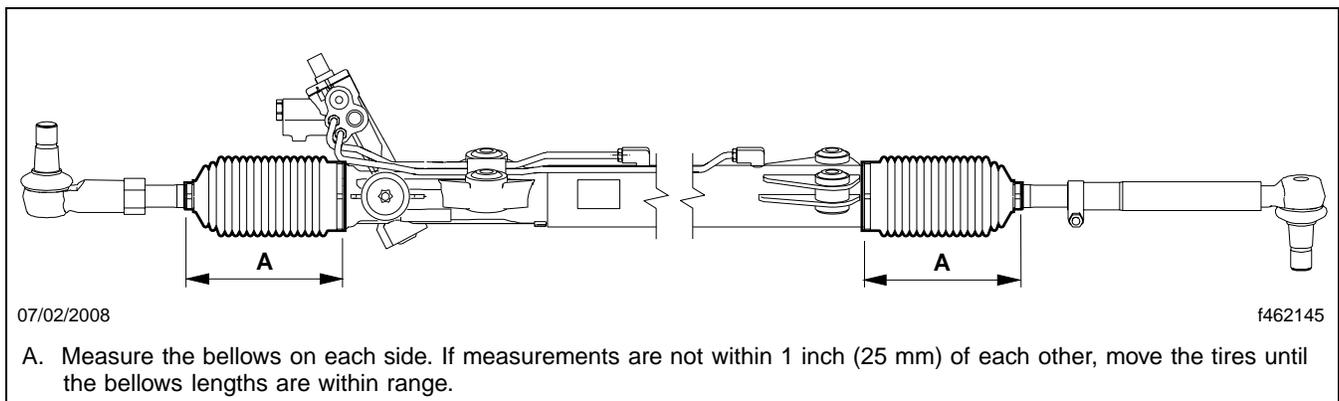

Fig. 3, Measuring the Tie Rod Bellows
- 18.1 Measure the length of the bellows from clamp to clamp on each side of the gear. See **Fig. 3**. If measurements are not within 1 inch (25 mm) of each other, move the tires until the bellows lengths are within range.